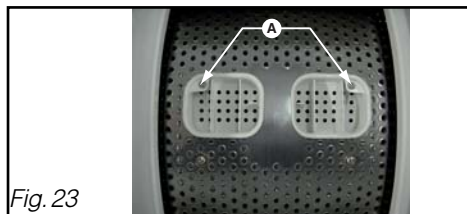

Fig. 23
- Unscrew and remove the 2 screws **A** (TORX T20 recesses), the vane falls into the drum. Take the precaution of placing a towel to cushion the fall (*Fig. 23*).